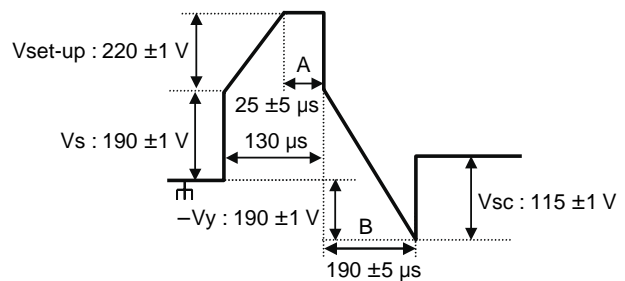

Fig. 2 Y Set-up Wave form
- Turn the VR1 of Y-SUS PCB and make the "A" wave form Fig. 2 to be $25 \pm 5 \mu\text{s}$.
- (2) Adjusting Vset-down Voltage Wave form
Turn the VR2 of Y-SUS PCB and make the "B" wave form Fig. 2 to be $190 \pm 5 \mu\text{s}$.